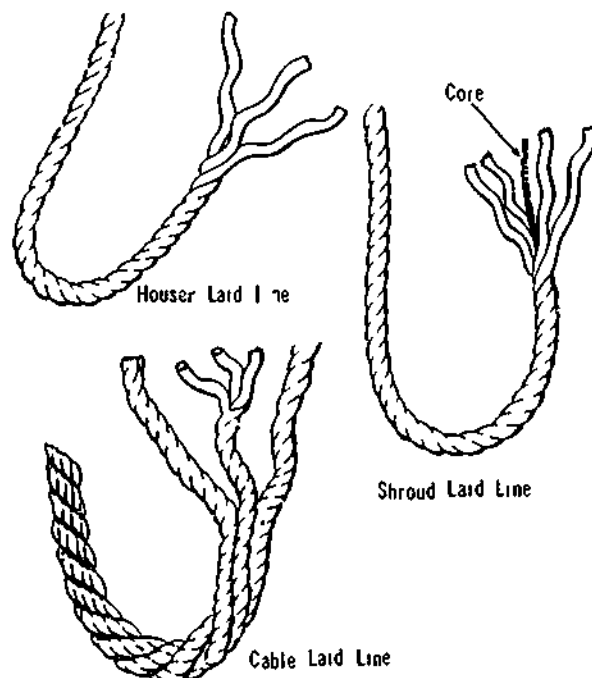

Figure 7-36. Forms of Natural Fibre Line
**Hawser laid** line is composed of three strands in a right hand lay (Figure 7-36).
**Shroud laid** line is composed of four strands in a right hand lay around a centre core (Figure 7-36).
**Cable laid** line is composed of three lines (right hand Hawser) arranged in a left hand lay (Figure 7-36).